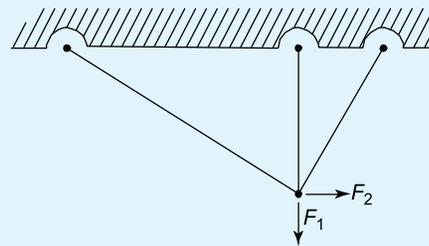

Figure 6.42
1. The truss of Figure 6.42 is a: